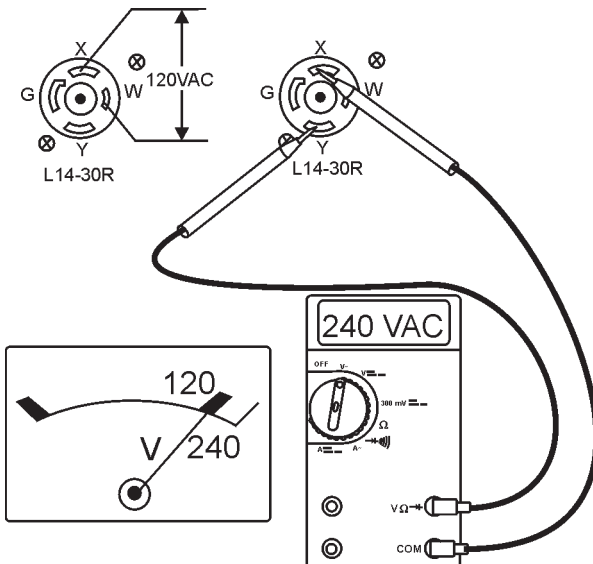

Figure 24. 120/240V L14-30R Receptacle
- The L14-30R receptacle is a dual voltage receptacle (120/240 volts). Using an external voltmeter as shown in Figure 24, verify that 120/240 VAC is present at the L14-30R twist-lock receptacle.